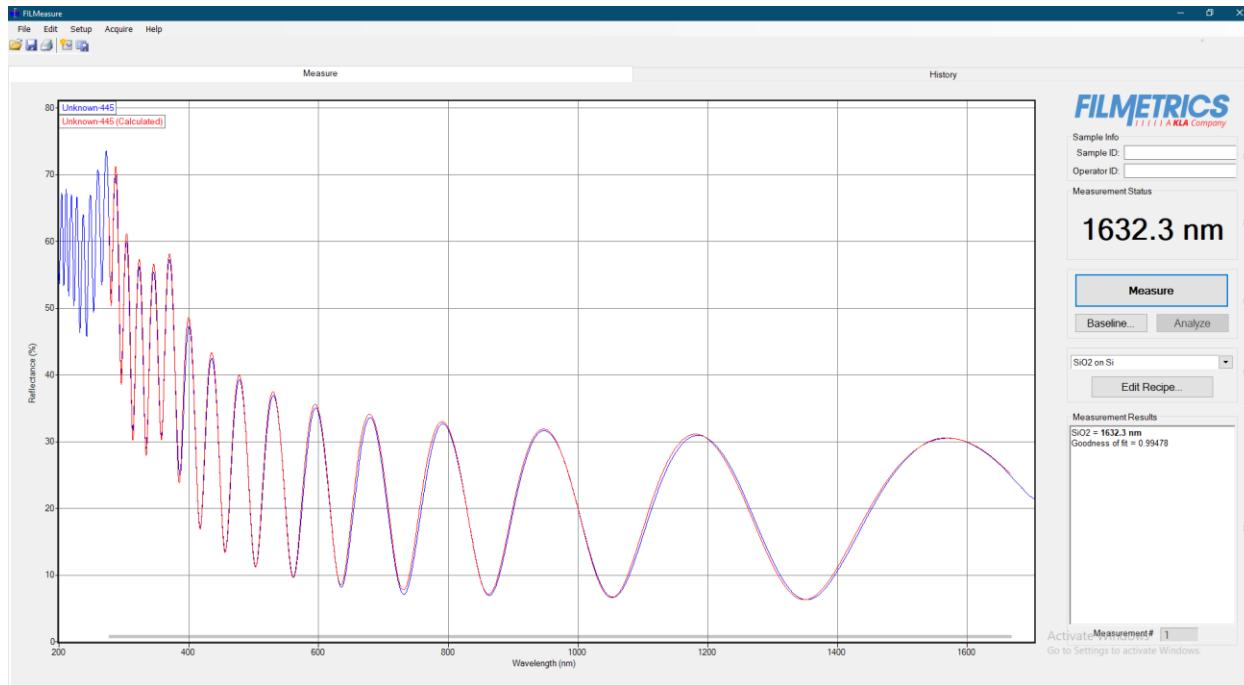

Figure 13. Measurement View of FILMeasure Software
16. After the measurement is complete, check the thickness value and goodness of fit under the measurement results shown in Figure 13. For the SiO₂ reference sample, make sure the thickness is approximately 1632.3 nm.